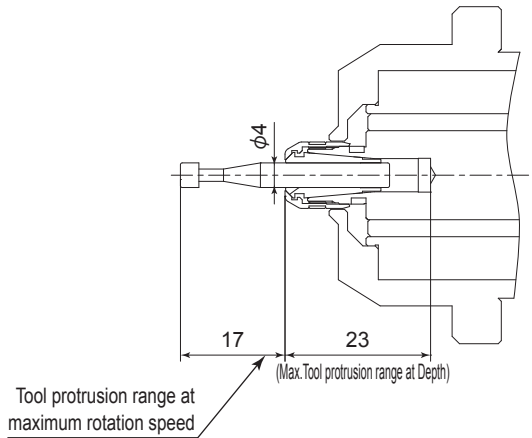

Fig. 20
- (1) The proper surface speed for general grindstones is 10 - 30m / s.
- (2) Do not exceed 17mm of Tool the protrusion depth range at Depth for mounted grindstones and cutting tools when using at the Maximum Rotation Speed (160,000 min⁻¹) (rpm) (Fig.20). If a total length of a grindstones and cutting tools are longer then 40mm, cut off a grindstones and cutting tools before use.
- (3) If the overhang must exceed 17mm, reduce the Air Turbine speed in accordance with Table. 2.
- (4) Dress the grindstone prior to use.
- (5) Do not use cutting tools with bent or broken shanks, cracks or excessive run-out.
- (6) For grinding, the maximum depth of cut should not exceed 0.01mm radially or axially. Reciprocate the tool several times after each pass to eliminate tool pressure.
- (7) Always operate cutting tools within the allowable recommended speed of the cutting tools. Use of a cutting tool outside of the allowable speed of the cutting tools could cause damage to the spindle and injury to the operator.
- (8) Keep the cutting tool shank, Collet Nut and Collet clean. If contaminants are allowed to remain in the collet or collet nut, excessive run-out will cause damage to the cutting tool and or spindle.
- (9) Do not strike or disassemble the Air Bearing Turbine Spindle.
- (10) Do not apply excessive cutting force as to cause more than a 5% decrease of the rotation speed.
Table. 2 Use this Maximum Rotation Speed Table when exceeding the " Range of Tool Overhang " recommendations (Refer to Fig. 20).